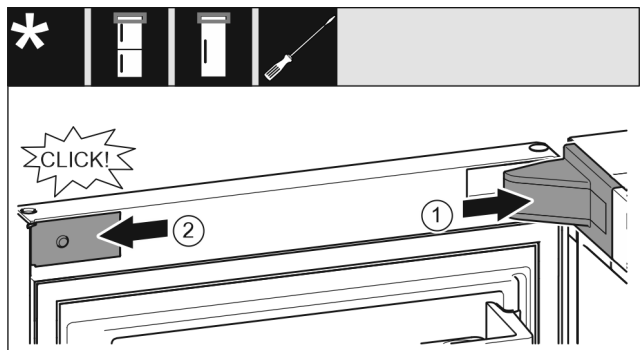

Fig. 26
- ▶ Put the swap bearing block cover Fig. 26 (1) on and engage, push apart carefully if required.
- ▶ Place the trim Fig. 26 (2) on the side and engage.